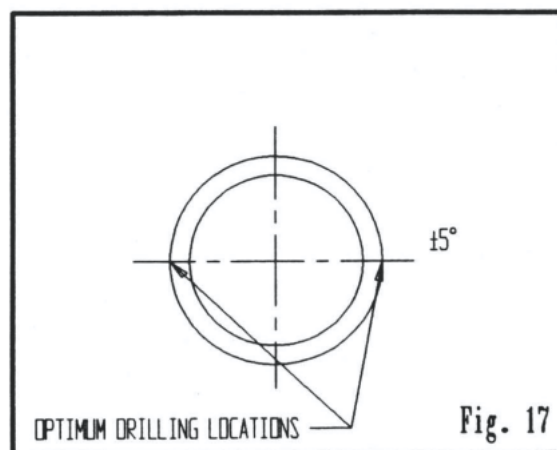

Fig. 17
1. As close to the neutral axis of the axle tube as possible. (See Fig. 17)